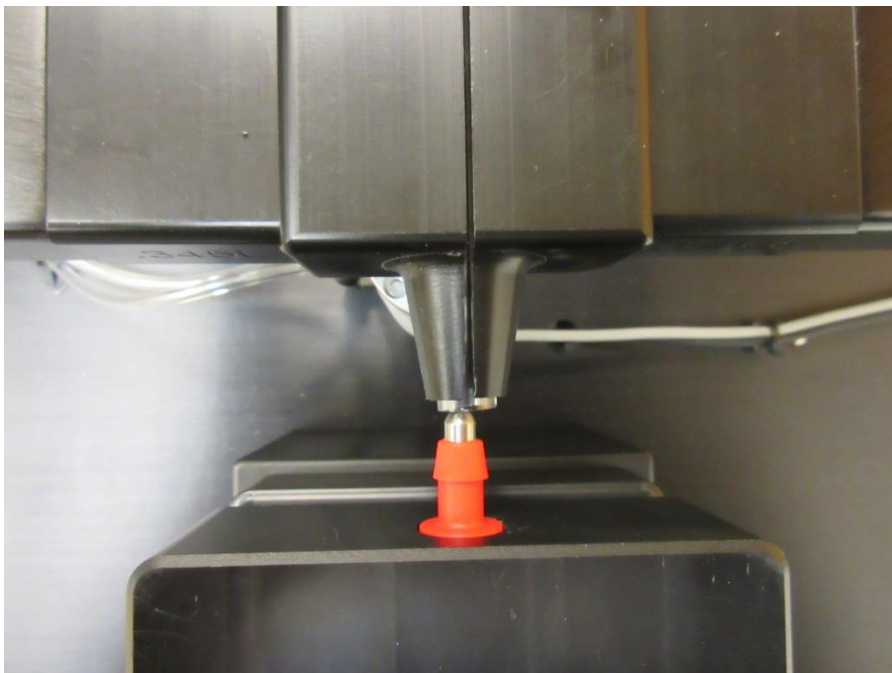

Figure 28 – Jaws not aligned with the nest
- If the tubing is not aligned with the fitting in the nest (see Figure 28, above) adjusting the gripper will be necessary.